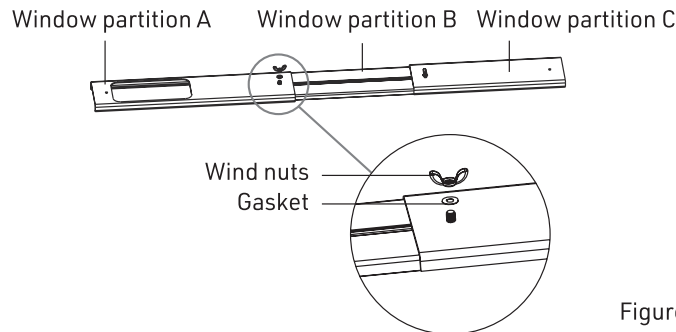

Figure. 6
- 7.) As shown in Figure 6, turn over the window partition, put the gasket and wing screw in turn and tighten them;